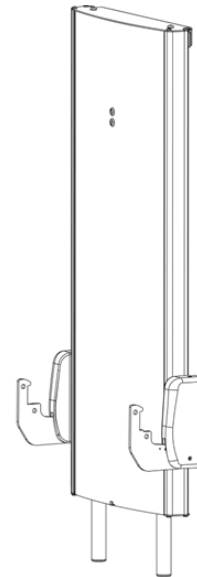

Fig 12.11f
- The M5 x 12 mm screw provided requires the spacer provided to be refitted between the inside of the gas spring covers and metal bracket. Location for the spacer can be seen in Fig 12.11f.